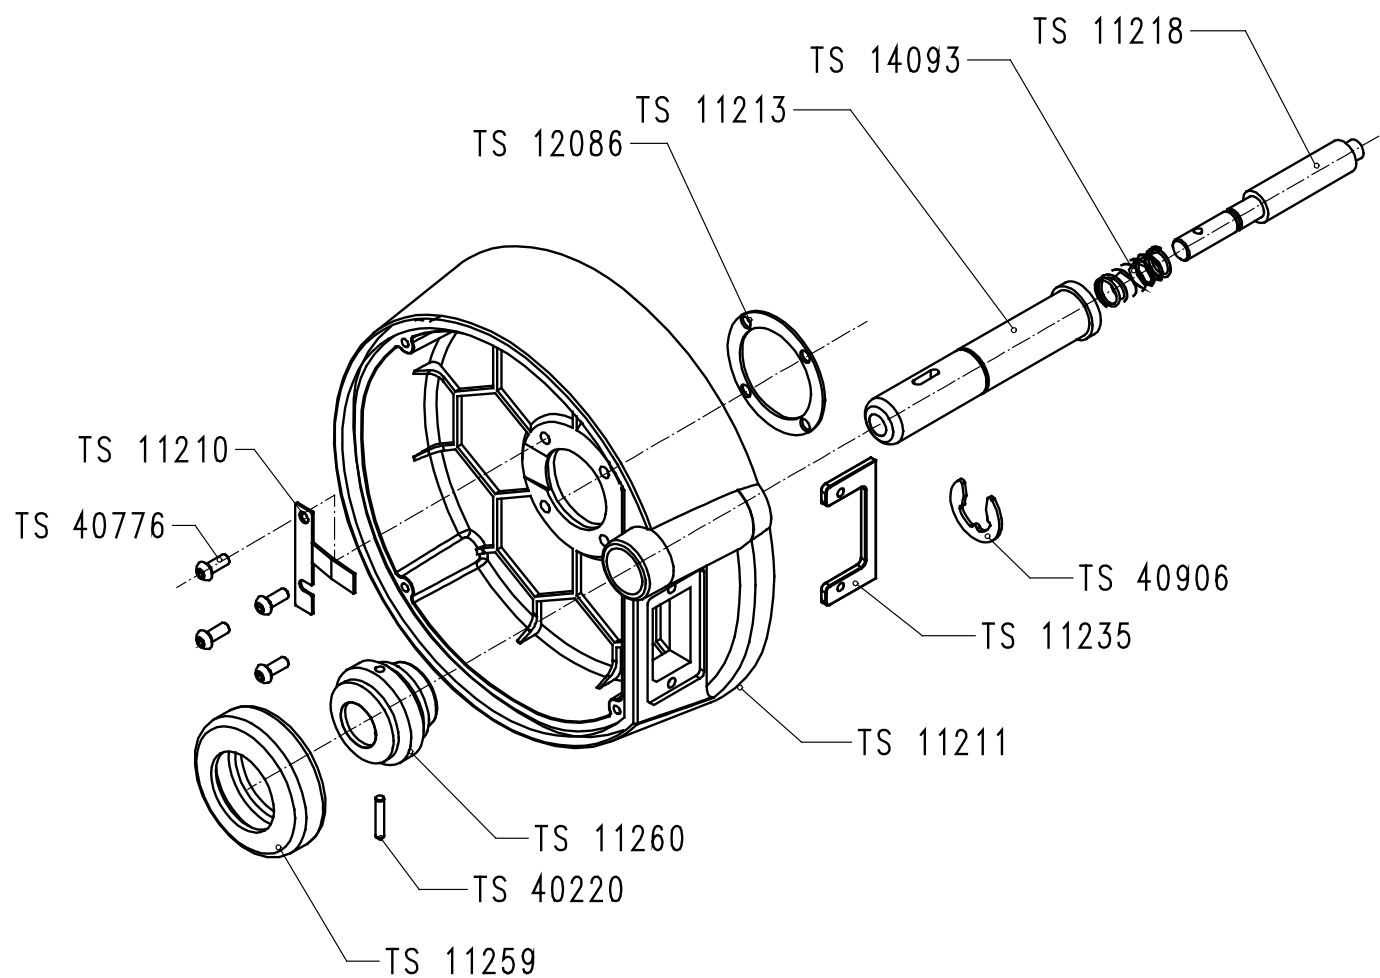

Figure 11-5: electronic box assembly TS 10190, details
- Figure 11-5: electronic box assembly TS 10190, details